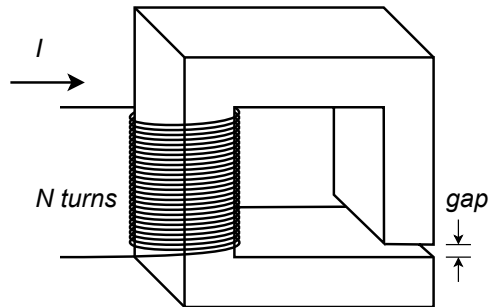

Figure 10.4
13. Given the magnetic circuit shown in Figure 10.4, assume the cross section is 1 cm by 2 cm with a path length of 6 cm. The entire core is made of sheet steel with the exception of a 1 mm air gap. Determine the current required to establish a flux of $4\text{E-}4$ webers if $N = 1000$ turns.